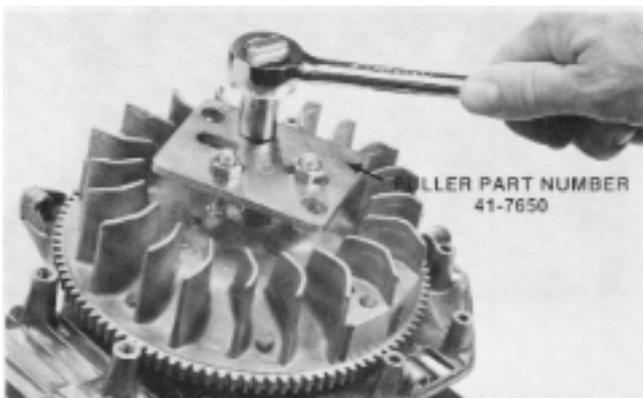

Figure 4-6
4. Mount flywheel puller #41-7650 and remove the flywheel. Insert the screws for the puller into the same holes used by the starter cup retaining screws. See Fig. 4-6.